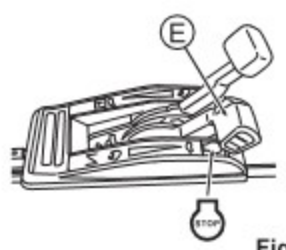

Fig. 8
6. To interrupt mowing work halfway or finish it, return Drive clutch lever (B) and Blade lever (C), and then set Throttle lever (E) to "STOP" to stop the engine. (See Fig. 8)